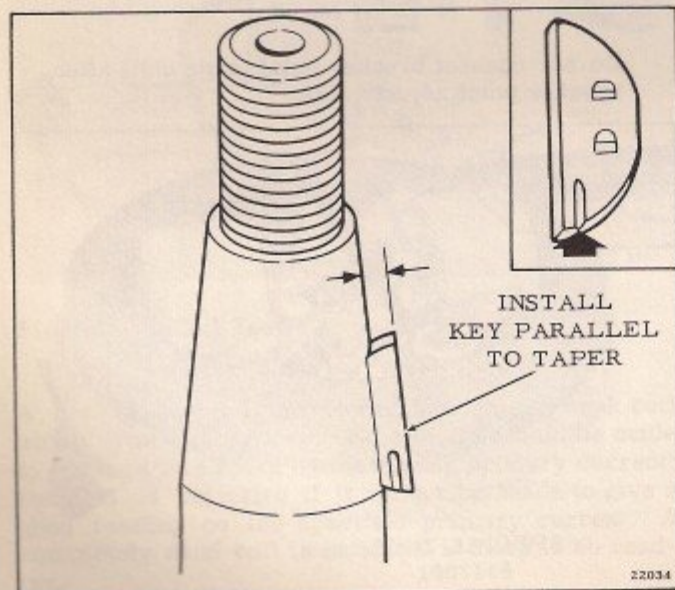

Figure 4-17. Flywheel Key Position Parallel to Taper
a. If flywheel key has been removed, reassemble to crankshaft with outer edge parallel to taper. See Figure 4-17.
Be sure that the single upset mark on the side of the key is facing down. See Figure 4-17. Incorrect installation of the key will affect cam position and ignition timing.